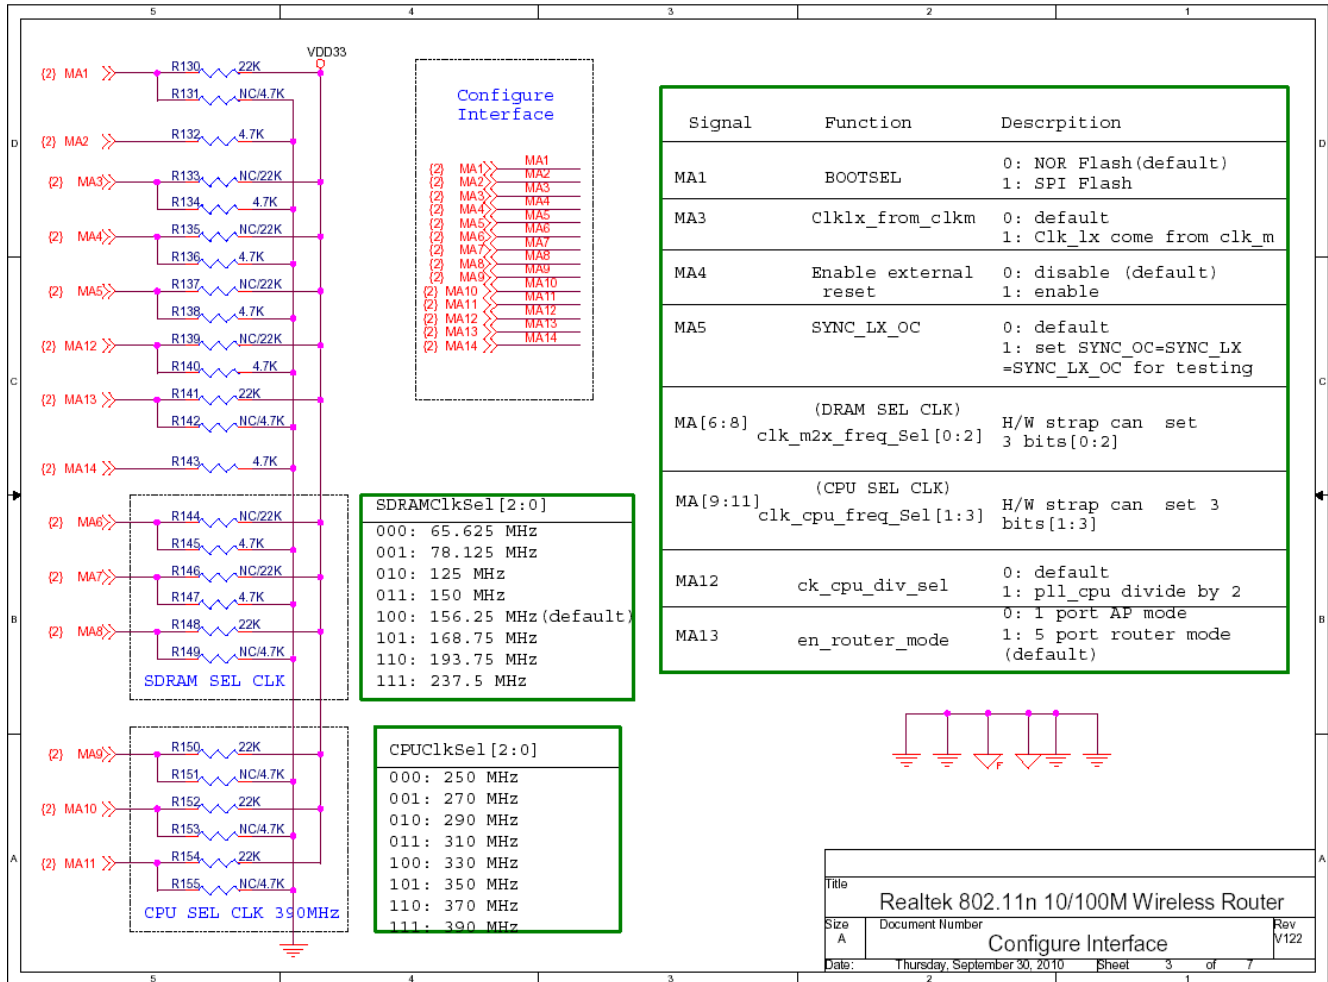

Fig 7.8.1 Realtek 802.11n 10/100M Wireless Router Interface Circuit
For hardware designer, please refer to Fig 7.8.1 and adjust signal MA11~9 (CPUClkSel[2:0]) to select CPU clock from 250MHz, 270 MHz, 290 MHz, 310 MHz, 330 MHz, 350 MHz, 370 MHz and 390 MHz.
1) For hardware designer, please refer to Fig 7.8.1 above and modify as follows: